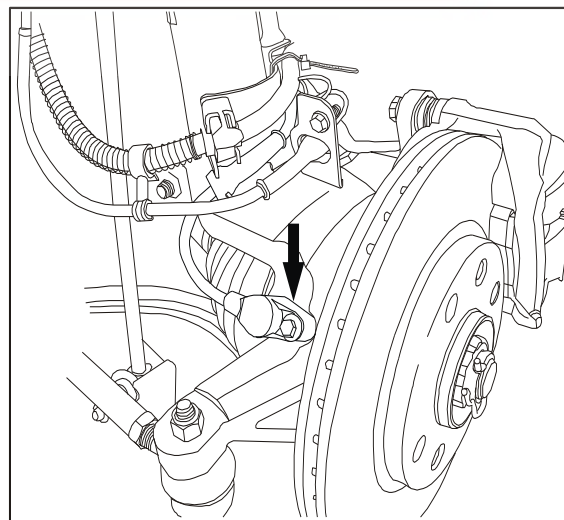

Fig.5-29 Removal of Front Wheel Speed Sensor
(1) Lift the car with a lifter.
(2) Remove front wheels.
(3) Disconnect the connector of wheel speed sensor.
(4) Screw off the mounting bolt of wheel speed sensor (see Fig.5-29), and pull out the speed sensor.